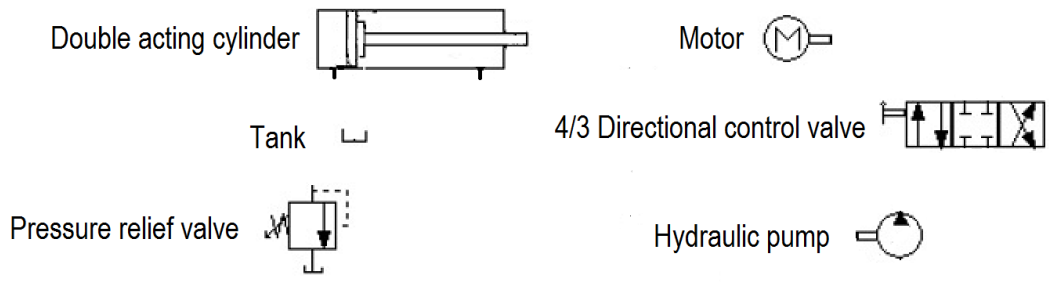

FIGURE 3
10.5 FIGURE 3 (below) shows some components that are used in a hydraulic system. Draw a neat, simple circuit diagram of a basic hydraulic system using the components shown in FIGURE 3. ■